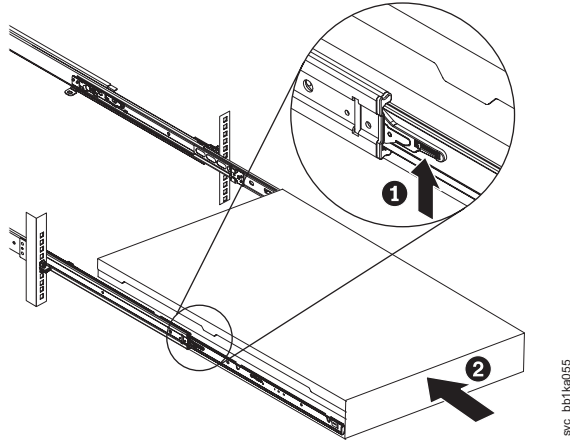

Figure 246. Raising the SAN Volume Controller 2145-CF8 or 2145-CG8 locking levers of the slide rails of the rack
11. Lift the locking levers ( **1** in Figure 246 on page 247) on the slide rails and push the server **2** all the way into the rack until it clicks into place.